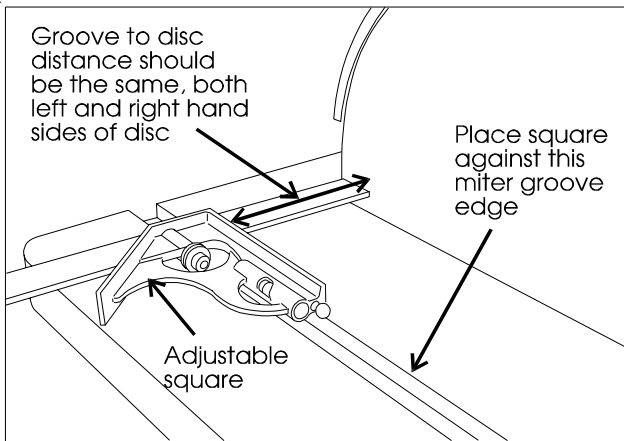

Figure 16: Using an adjustable square to set the table parallelism.
3. Place a scale or adjustable machinist's square against either the left or right edge of the disc face and measure the distance to the miter slot edge (See Figure 16).